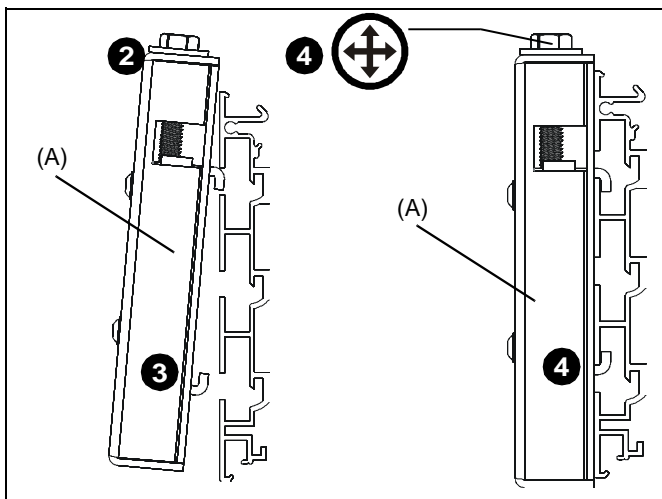

Figure 2
2. Locate desired installation location and slide upper mounting plate into wall making sure bracket is seated in channel bottom. (See Figure 2)
4. Using 1/2" socket, tighten tension screw until lower mounting plate slides into channel in wall and continue tightening until resistance is felt. (See Figure 2)